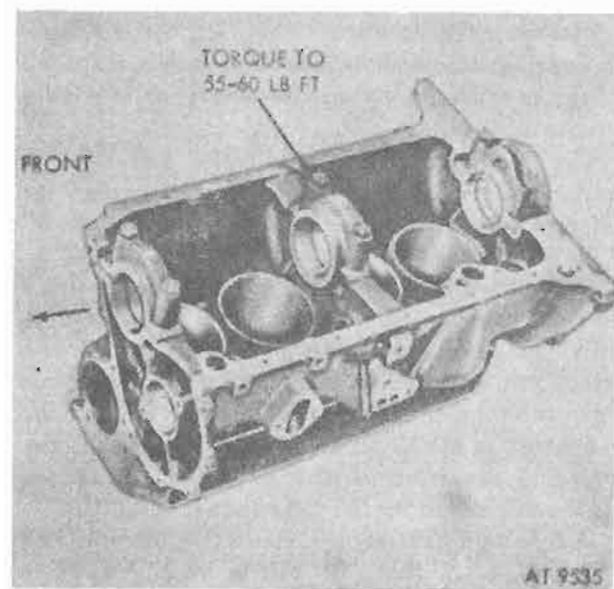

Figure 4-179. Main bearings and caps.
a. *Install Bearings and Caps.* Install bearing halves in cylinder block and main bearing cap. Position front and center bearing caps on block so arrow (cast in top of cap) points towards front of engine. If replacing used bearings, make sure they are installed in their original location in bearing bore. Main bearing caps are not interchangeable and are line-bored with cylinder block as an assembly. The center main flanged bearing halves are not interchangeable with the front and rear bearing halves. Apply grease (GAA) or equivalent on threads and under the head of size 7/16-14x2 3/4 hex-head self-locking main bearing cap bolts, and tighten to 55-60 lb.-ft. torque (fig. 4-179).